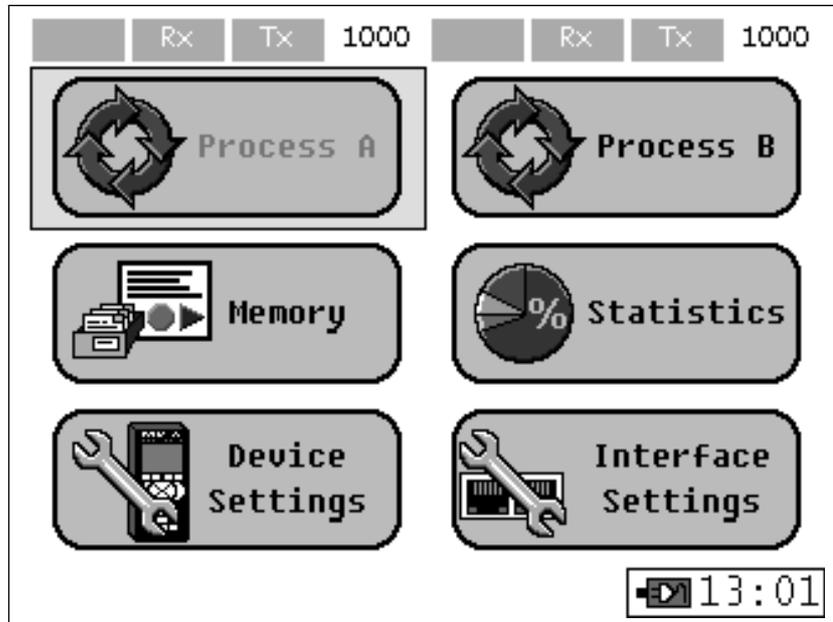

Figure 10.1 Main menu
**Main menu** appears as soon as you switch Tester on. Figure 10.1 shows main menu structure.